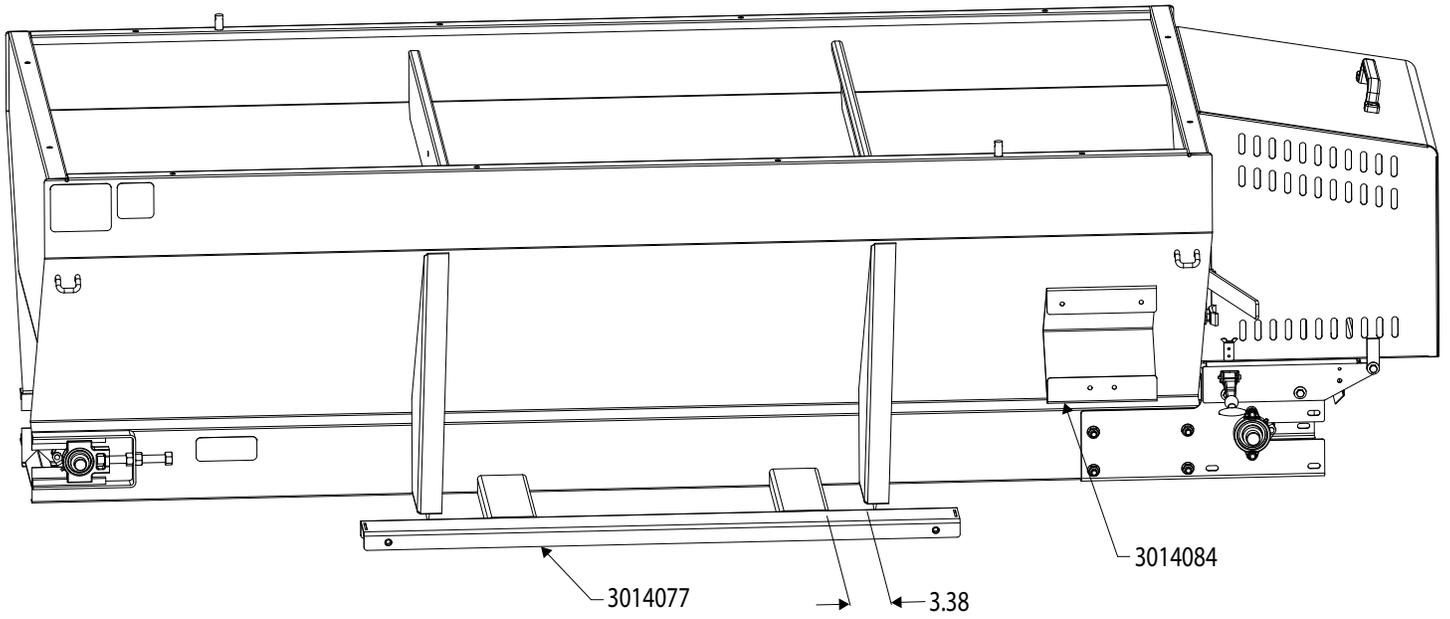

Fig. 1
- 1.** Position and weld Enclosure Bracket (#3014084) and Support (#3014077) to spreader as shown on Fig.1.